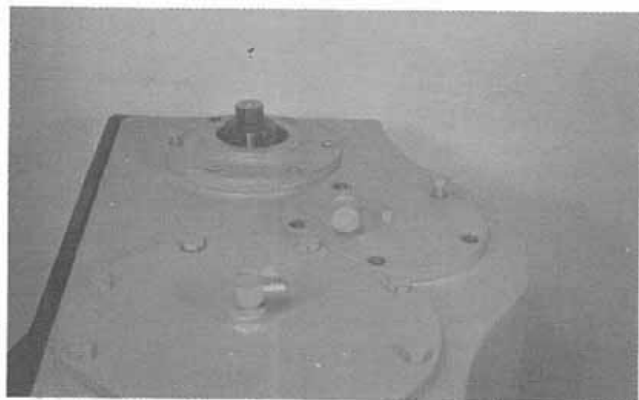

Figure 21:
13. Place shims on the remaining rear bearing caps (Fig. 20). Use at least the same thickness value as removed originally. However, if the housing, any bearing caps or bearings were replaced, add extra shims to ensure that bearings will have clearance once the unit is assembled. Align the caps and install into the housing (Fig. 21). Shims are available in thicknesses of .005, .007 and .020 inches (.127, .177 and .508 mm).